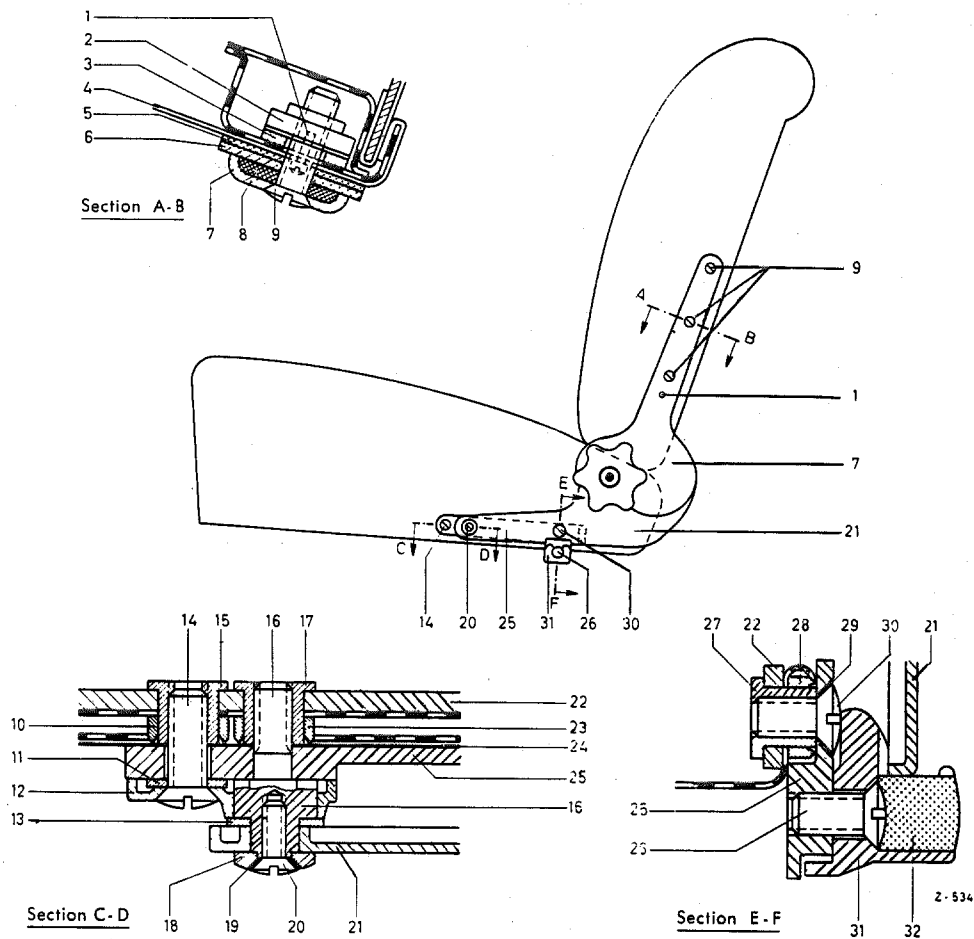

Fig. 91 — 3/2
3. Insert the connecting rod in the reclining-seat fittings (7) at the left and at the right, and cotter.
- 4a. On previous versions, fix the reclining-seat fittings (7) and cardboard inserts (8) at the right and at the left side by means of three oval-head countersunk screws (9) together with cardboard spacers (5) and (6).
- 4b. On recent cars, install the fastening rails (2) at the left and at the right in the seat-back frame (3) from below and fix them with an oval-head screw (1). Then screw the reclining-seat fittings to the seat-back as described above. Fasten the side part of the seat-back cover and install the seat-back panel.
5. Install the thrust ring (10) with cutting edge, at the left and at the right (see Fig. 91—3/2). The edge of the thrust ring must point **outward**, i. e. it must be under the leatherette cover (24).
6. Check the thrust rings (23) and (28) to see whether they are provided with a cutting edge. If thrust rings with two plane faces are found, they must be replaced by rings with cutting edge.